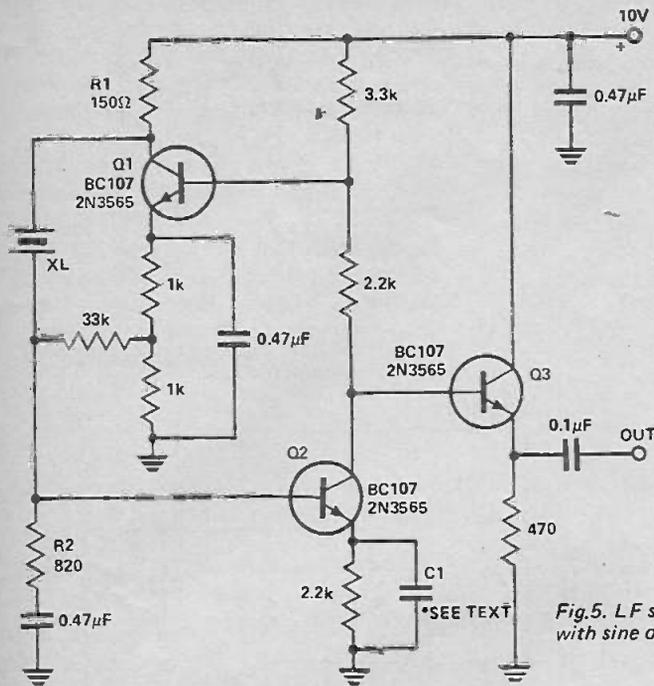

Fig. 5. L.F. series mode oscillator with sine or squarewave output.
The circuit in Fig. 5 is a series mode oscillator described by Lane (3). It has the advantage of not requiring a tuned circuit, and has a choice of sine or square wave output. For crystals in the range 50-150 kHz, 2N3565 transistors are recommended although the author has found BC107's satisfactory. Either type will suffice for crystals in the range 150 kHz to 500 kHz. If you find the crystal will not start reliably, most likely the crystal has a very high equivalent series resistance, in which case increase R1 to 270 ohms and R2 to 3.3 k (as recommended by Lane). For square wave operation, C1 is 1 µF (or a value close to, or above it). For sine wave output, C1 is not in circuit. Amplitude limiting is unnecessary. Sine wave output is about 1 V rms, square wave output about 4 V peak to peak.